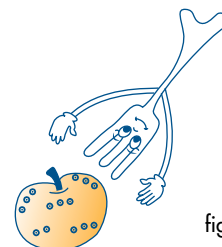

fig. 9
- 4) **Foods having a skin, shell or peel (e.g., apples, potatoes, tomatoes, frankfurters, fish) must be pierced with a fork in several points so as to permit steam to escape and to prevent those items from exploding (see Fig. 9).**